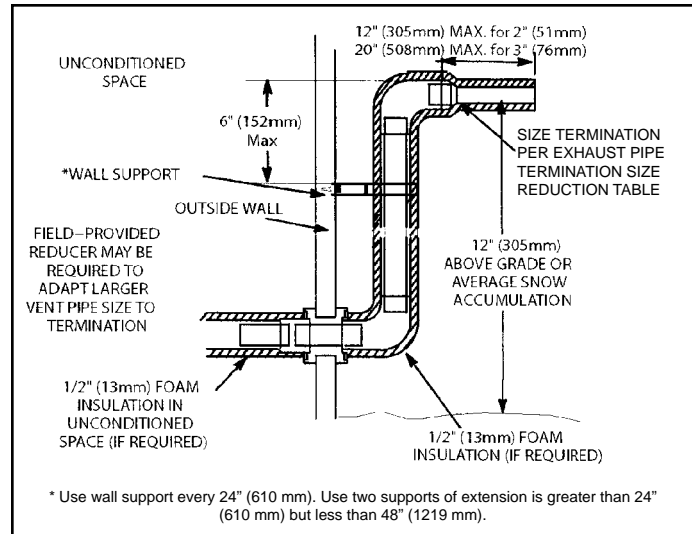

Figure 40. Non-Direct Vent Field Supplied Wall Termination Extended
3. If exhaust piping must be run up a sidewall to position above snow accumulation or other obstructions, piping must be supported every 24" (610 mm) as shown in Figure 40. When exhaust piping must be run up an outside wall, any reduction in exhaust pipe size must be done after the final elbow.